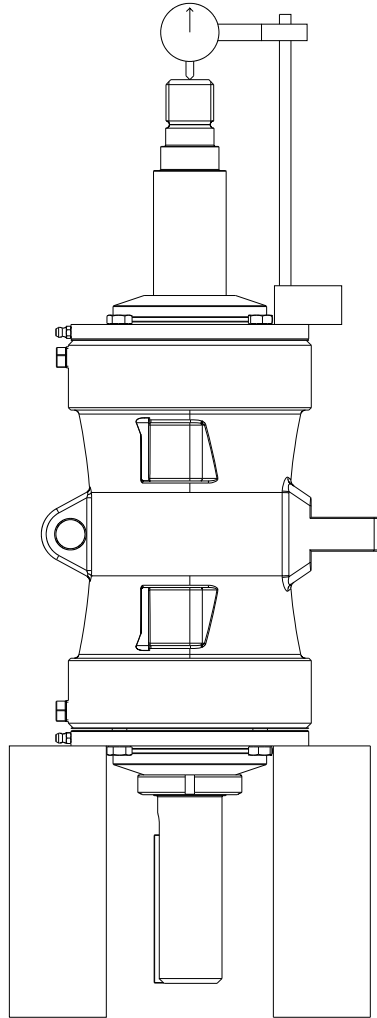

Fig. 4
21. To check Bearing Assembly(2) end play place assembly on blocks with keyed end down. (See Fig. 4) be sure to secure Bearing Assembly(2) from tipping.